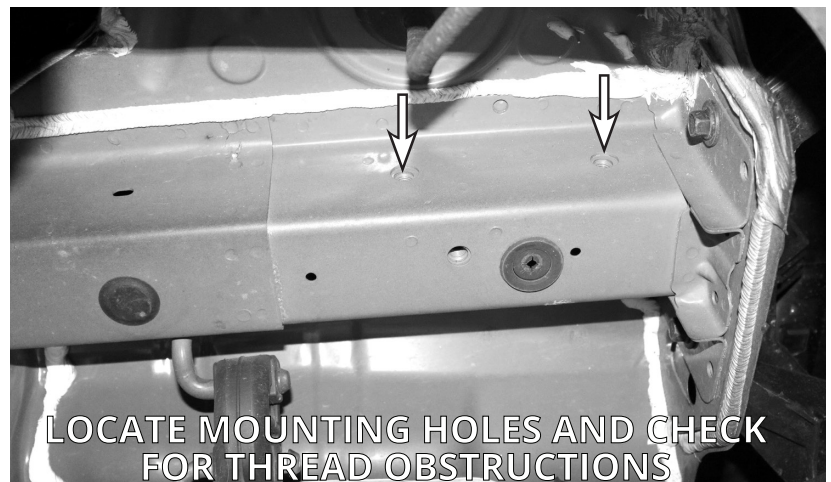

FIGURE A2: VIEW UNDER THE REAR OF THE VEHICLE
2. Under the rear of the vehicle, locate two threaded mounting holes in the side of each chassis channel, as shown in Figure A2.